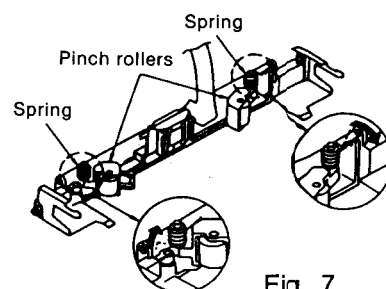

Fig. 7
5. Remove 2 springs in order to remove the pinch rollers. (See Fig. 7.)